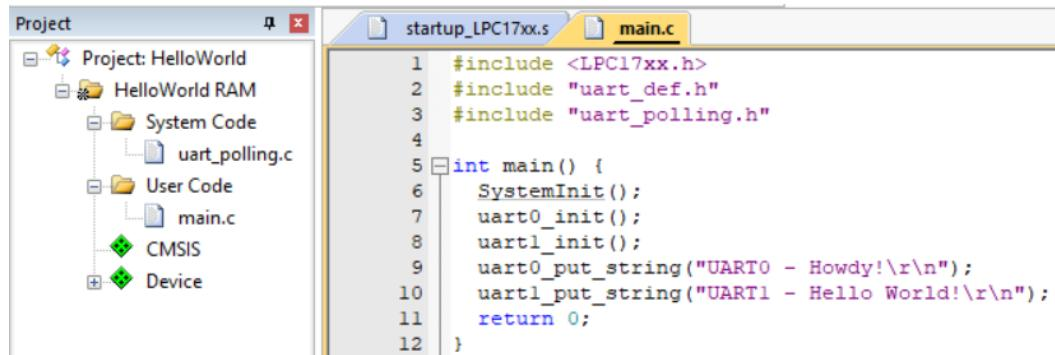
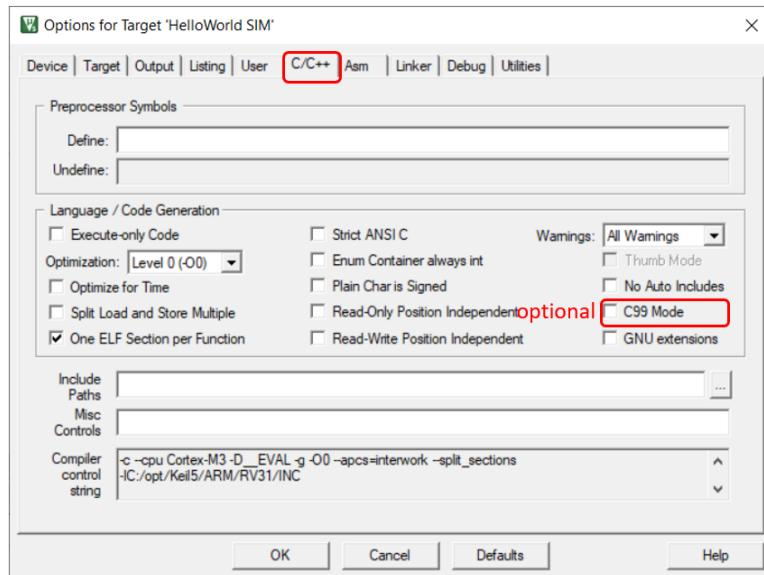

Figure 9.10: Keil IDE: Final Project Setting
Figure 9.12: Keil IDE: Target Options C/C++ Tab Configuration
the source code as shown in Figure 9.10. Your final project would look like the screen shot in Figure 9.10.
2. Configure the C/C++ tab as shown in Figure 9.12. We do not need c99 for this example. So we leave it unchecked. If you click OK to finish the Target option setting now, you will find the red cross at line 2 (See Figure 9.10) is now gone. Now re-open the target options configuration window and proceed to the next step.